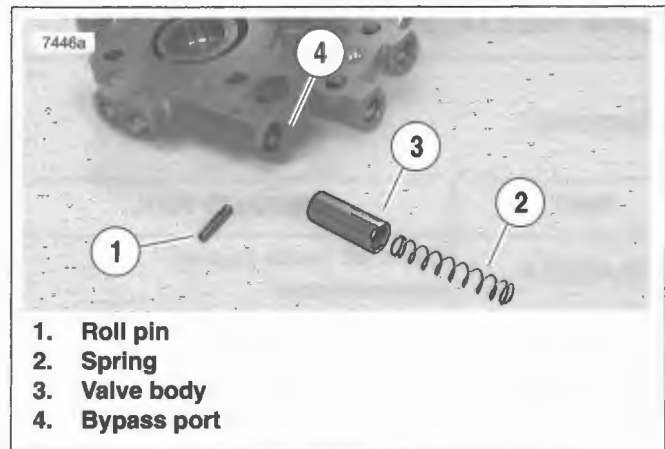

Figure 3-131. Oil Pressure Relief Valve Assembly
3. See Figure 3-131. Using a 1/8 in. punch with a small hammer, carefully tap roll pin (1) from pin hole in cam support plate. Discard roll pin.
4. Remove spring (2) and valve body (3) from bypass port.
2. See Figure 3-131. Lubricate valve body (3) with clean H-D 20W50 engine oil. Slide valve body into bypass port of cam support plate with the open side facing outward.
3. Slide spring (2) into bypass port until seated in open side of valve body.
4. Start **new** roll pin (1) into hole in cam support plate. Compress spring in port using the blade of a small screwdriver.